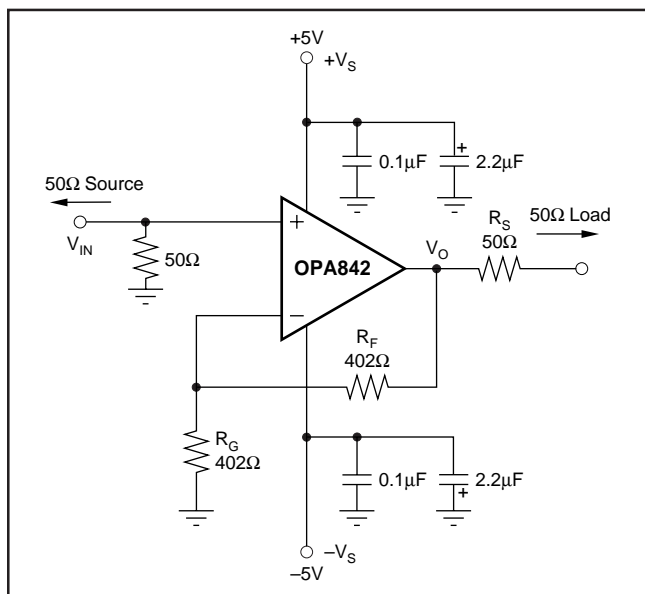
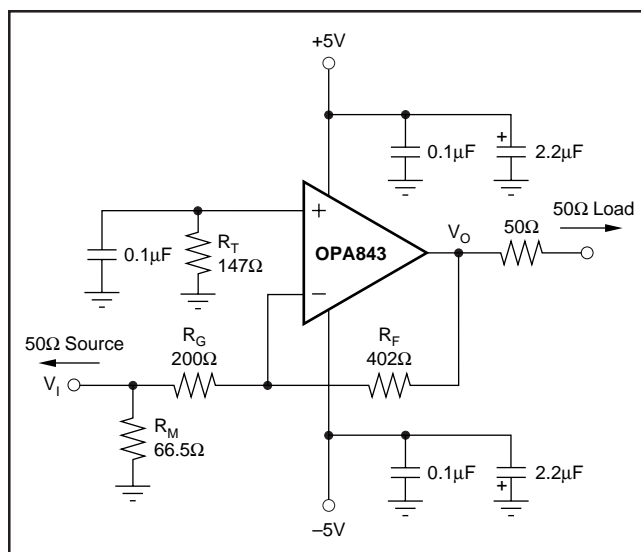

FIGURE 1. Gain of +2. High-frequency application and characterization circuit.
FIGURE 2. Inverting  $G = -2$  Specifications and Test Circuit.
The OPA842's combination of speed and dynamic range is easily achieved in a wide variety of application circuits, providing that simple principles of good design practice are observed. For example, good power-supply decoupling, as shown in Figure 1, is essential to achieve the lowest possible harmonic distortion and smooth frequency response.
Figure 1 shows the gain of +2 configuration used as the basis for most of the typical characteristics. Most of the curves were characterized using signal sources with 50Ω driving impedance and with measurement equipment presenting 50Ω load impedance. In Figure 1, the 50Ω shunt resistor at the  $V_I$  terminal matches the source impedance of the test generator while the 50Ω series resistor at the  $V_O$  terminal provides a matching resistor for the measurement equipment load. Generally, data sheet specifications refer to the voltage swing at the output pin ( $V_O$  in Figure 1). The 100Ω load, combined with the 804Ω total feedback network load, presents the OPA842 with an effective load of approximately 90Ω in Figure 1.
Operating the OPA842 as an inverting amplifier has several benefits and is particularly useful when a matched 50Ω source and input impedance is required. Figure 2 shows the inverting gain of -2 circuit used as the basis of the inverting mode typical characteristics.
In the inverting case, just the feedback resistor appears as part of the total output load in parallel with the actual load. For the 100Ω load used in the typical characteristics, this gives a total load of 80Ω in this inverting configuration. The gain resistor is set to get the desired gain (in this case 200Ω for a gain of -2) while an additional input matching resistor ( $R_M$ ) can be used to set the total input impedance equal to the source if desired. In this case,  $R_M = 66.5Ω$  in parallel with the 200Ω gain setting resistor gives a matched input impedance of 50Ω. This matching is only needed when the input needs to be matched to a source impedance, as in the characterization testing done using the circuit of Figure 2. The OPA842 offers extremely good DC accuracy as well as low noise and distortion. To take full advantage of that DC precision, the total DC impedance looking out of each of the input nodes must be matched to get bias current cancellation. For the circuit of Figure 2, this requires the 147Ω resistor shown to ground on the noninverting input. The calculation for this resistor includes a DC-coupled 50Ω source impedance along with  $R_G$  and  $R_M$ . Although this resistor will provide cancellation for the bias current, it must be well decoupled (0.1μF in Figure 2) to filter the noise contribution of the resistor and the input current noise.
As the required  $R_G$  resistor approaches 50Ω at higher gains, the bandwidth for the circuit in Figure 2 will far exceed the bandwidth at that same gain magnitude for the noninverting circuit of Figure 1. This occurs due to the lower "noise gain" for the circuit of Figure 2 when the 50Ω source impedance is included in the analysis. For instance, at a signal gain of -8 ( $R_G = 50Ω$ ,  $R_M = \text{open}$ ,  $R_F = 402Ω$ ) the noise gain for the circuit of Figure 2 will be  $1 + 402Ω/(50Ω + 50Ω) = 5$  due to the addition of the 50Ω source in the noise gain equation. This gives considerable higher bandwidth than the noninverting gain of +8. Using the 200MHz gain bandwidth product for the OPA842, an inverting gain of -8 from a 50Ω source to a 50Ω  $R_G$  will give approximately 40MHz bandwidth, whereas the noninverting gain of +8 will give 25MHz.
The circuit of Figure 1 applies to this requirement if all references to 50Ω resistors are replaced by 75Ω values. Often, the amplifier gain is further increased to 2.2, which recovers the additional DC loss of a typical long cable run. This change would require the gain resistor (RG) in Figure 1 to be reduced from 402Ω to 335Ω. In either case, both the gain flatness and the differential gain/phase performance of the
A good rule of thumb is to target the parallel combination of  $R_F$  and  $R_G$  (see Figure 1) to be less than about 200Ω. The combined impedance  $R_F \parallel R_G$  interacts with the inverting input capacitance, placing an additional pole in the feedback network, and thus a zero in the forward response. Assuming a 2pF total parasitic on the inverting node, holding  $R_F \parallel R_G < 200\Omega$  will keep this pole above 400MHz. By itself, this constraint implies that the feedback resistor  $R_F$  can increase to several kΩ at high gains. This is acceptable as long as the pole formed by  $R_F$  and any parasitic capacitance appearing in parallel is kept out of the frequency range of interest.
In the inverting configuration, an additional design consideration must be noted.  $R_G$  becomes the input resistor and therefore the load impedance to the driving source. If impedance matching is desired,  $R_G$  may be set equal to the required termination value. However, at low inverting gains, the resultant feedback resistor value can present a significant load to the amplifier output. For example, an inverting gain of 2 with a 50Ω input matching resistor ( $= R_G$ ) would require a 100Ω feedback resistor, which would contribute to output loading in parallel with the external load. In such a case, it would be preferable to increase both the  $R_F$  and  $R_G$  values, and then achieve the input matching impedance with a third resistor to ground (see Figure 2). The total input impedance becomes the parallel combination of  $R_G$  and the additional shunt resistor.
The OPA842 is capable of delivering an exceptionally low distortion signal at high frequencies and low gains. The distortion plots in the Typical Characteristics show the typical distortion under a wide variety of conditions. Most of these plots are limited to 100dB dynamic range. The OPA842's distortion does not rise above –100dBc until either the signal level exceeds 0.5V and/or the fundamental frequency exceeds 500kHz. **Distortion in the audio band is ≤ –120dBc.** Generally, until the fundamental signal reaches very high frequencies or powers, the 2nd-harmonic will dominate the distortion with a negligible 3rd-harmonic component. Focusing then on the 2nd-harmonic, increasing the load impedance improves distortion directly. Remember that the total load includes the feedback network—in the noninverting configuration this is the sum of  $R_F + R_G$ , whereas in the inverting configuration this is just  $R_F$  (see Figure 1). Increasing the output voltage swing increases harmonic distortion directly. Increasing the signal gain will also increase the 2nd-harmonic distortion. Again, a 6dB increase in gain will increase the 2nd- and 3rd-harmonic by 6dB even with a constant output power and frequency. Finally, the distortion increases as the fundamental frequency increases due to the roll off in the loop gain with frequency. Conversely, the distortion will improve going to lower frequencies down to the dominant open-loop pole at approximately 600Hz. Starting from the –100dBc 2nd-harmonic for 2Vp-p into 200Ω,  $G = +2$  distortion at 1MHz (from the Typical Characteristics), the 2nd-harmonic distortion at 20kHz should be approximately:
Evaluating these two equations for the OPA842 circuit presented in Figure 1 will give a total output spot noise voltage of 6.6nV/√Hz and an equivalent input spot noise voltage of 3.3nV/√Hz.
Narrow band communications systems are more commonly concerned with the noise figure for the amplifier. The total input referred voltage noise expression (see Equation 4), may be used to calculate the noise figure. Equation 5 shows this noise figure expression using the NG of Equation 4 for the noninverting configuration where the input terminating resistor,  $R_T$ , has been set to match the source impedance,  $R_S$  (see Figure 1).
Evaluating Equation 5 for the circuit of Figure 1 gives a noise figure = 17.6dB.
The OPA842 can provide excellent DC signal accuracy due to its high open-loop gain, high common-mode rejection, high power-supply rejection, and low input offset voltage and bias current offset errors. To take full advantage of this low input offset voltage, careful attention to input bias current cancellation is also required. The high-speed input stage for the OPA842 has a relatively high input bias current (20μA typ into the pins) but with a very close match between the two input currents—typically 0.35μA input offset current. The total output offset voltage may be considerably reduced by matching the source impedances looking out of the two inputs. For example, one way to add bias current cancellation to the circuit of Figure 1 would be to insert a 175Ω series resistor into the noninverting input from the 50Ω terminating resistor. When the 50Ω source resistor is DC-coupled, this will increase the source impedance for the noninverting input bias current to 200Ω. Since this is now equal to the impedance looking out of the inverting input ( $R_F \parallel R_G$ ), the circuit will cancel the gains for the bias currents to the output leaving only the offset current times the feedback resistor as a residual DC error term at the output. Using a 402Ω feedback resistor, this output error will now be less than  $1\mu A \cdot 402\Omega = 0.4mV$  at 25°C.
As a worst-case example, compute the maximum  $T_J$  using an OPA842IDBV (SOT23-5 package) in the circuit of Figure 1 operating at the maximum specified ambient temperature of +85°C.